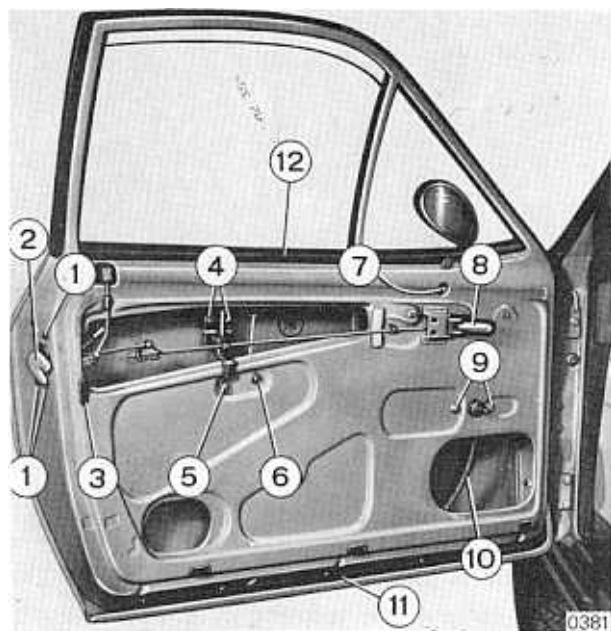

Fig. 15 2/18 - Door
- Set the lock in its seating and secure with bolts, reconnect the control cable (4), screw in the nut (5) and check the operation of the inside remote control mechanism (8) (fig. 15 2/18), adjusting it if necessary.